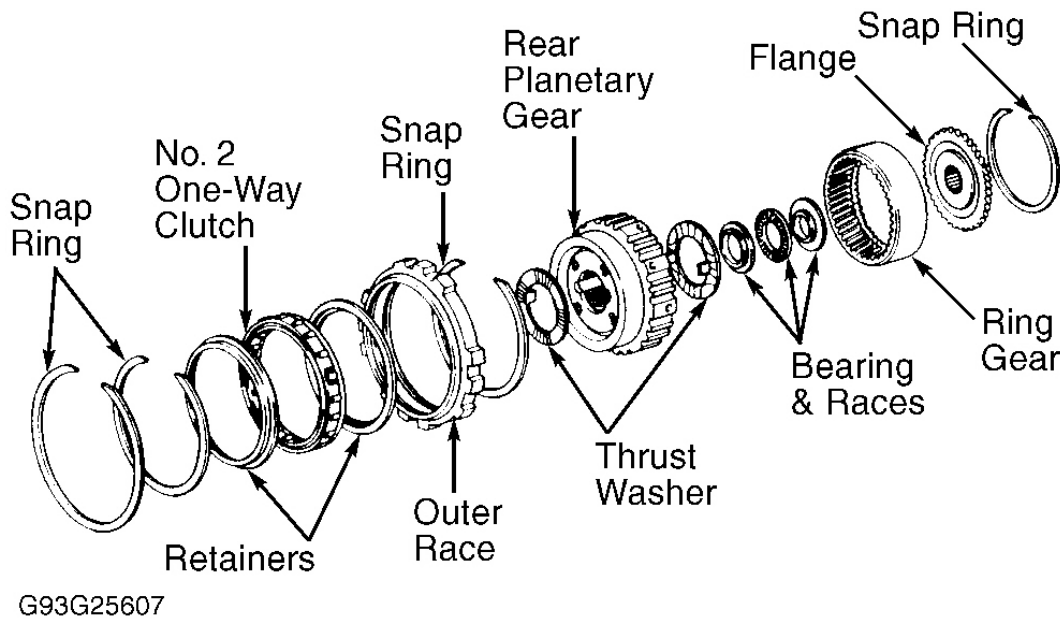

Fig. 41: Exploded View Of Rear Planetary Gear
2. Remove thrust washers from both sides of planetary gear. Separate No. 2 one-way clutch and planetary gear. Remove snap rings and side retainers from No. 2 one-way clutch. Note position of No. 2 one-way clutch and remove from outer race. See **Fig. 41** .